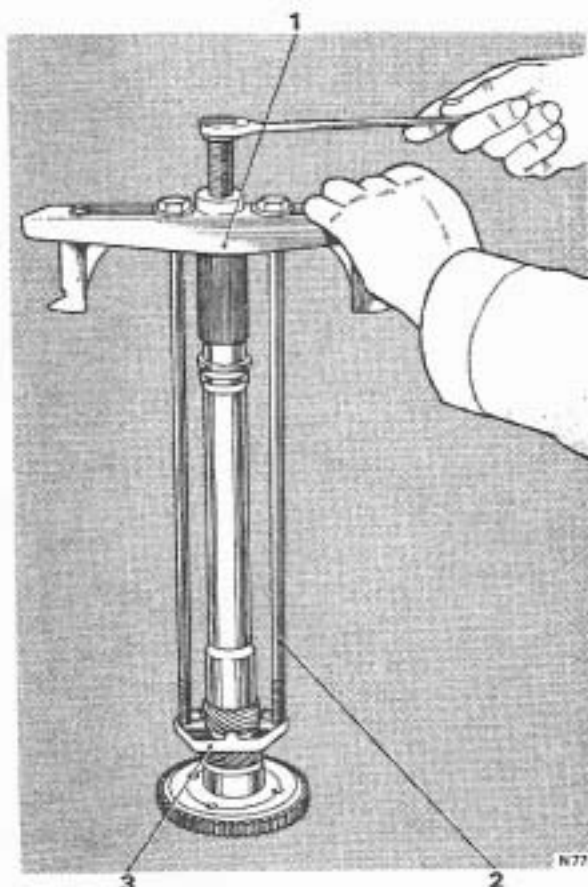

FIG. T271 REMOVING A STEEL SPEEDOMETER DRIVE GEAR
3. The flat face of the remover tool should be under the front face of the drive gear (see Fig. T271).